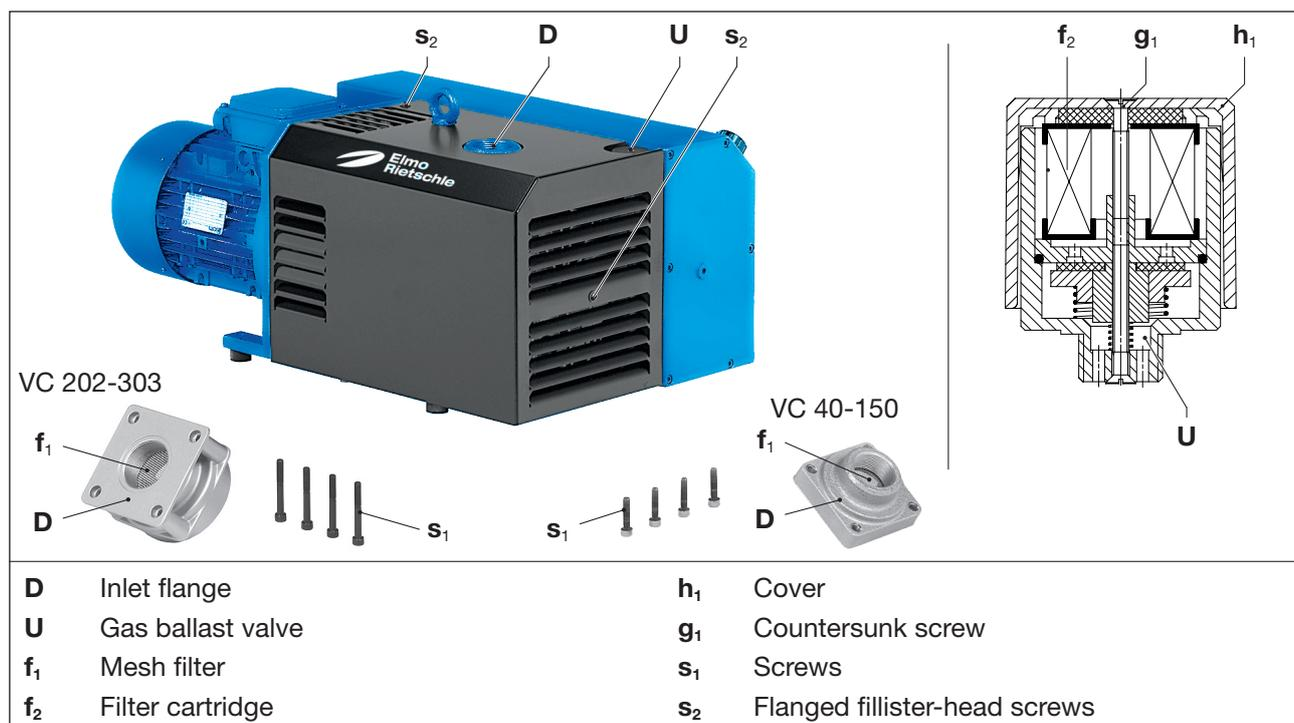

Fig. 6 Mesh filter and gas ballast valve
Depending on the pollution of the inlet medium, the mesh filter (Fig. 6/f₁) has to be cleaned more or less often by washing or it must be replaced.
- b) **VC 40-150:** Unscrew two flanged fillister-head screws (Fig. 6/s₂) on the hood and remove the hood. Remove the suction flange (Fig. 6/D) after the four screws have been released (Fig. 6/s₁).
VC 202-303: Remove the suction flange (Fig. 6/D) after the four screws have been released (Fig. 6/s₁).
- c) Clean the mesh filter (Fig. 6/f₁).
- e) Put on the suction flange (Fig. 6/D) and secure it with the screws (Fig. 6/s₁).
For VC 40-150: Remount the hood with the two flanged fillister-head screws (Fig. 6/s₂).
The pumps work with a gas ballast valve (Fig. 6/U). The inbuilt filter cartridge (Fig. 6/f₂) must be cleaned more or less often depending on how dirty the medium flowing through is.
- a) By undoing the countersunk screw (Fig. 6/g₁) and removing the plastic hood (Fig. 6/h₁), the filter parts can be taken out for cleaning.
- b) Clean the filter cartridge (Fig. 6/f₂) by washing or replace it.
- c) Insert the filter cartridge (Fig. 6/f₂) into the valve, put on the plastic hood (Fig. 6/h₁) and secure it with the countersink screws (Fig. 6/g₁). Tighten the screw by hand.